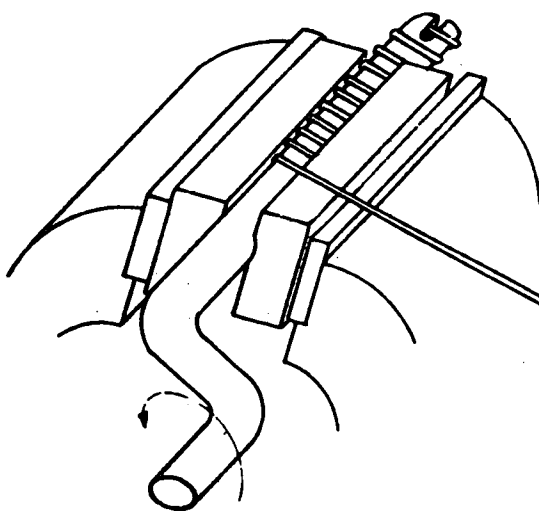

Fig. 6 Spirals to the left
2. To make springs with spirals towards the left, position the rod as shown in Fig. 6.